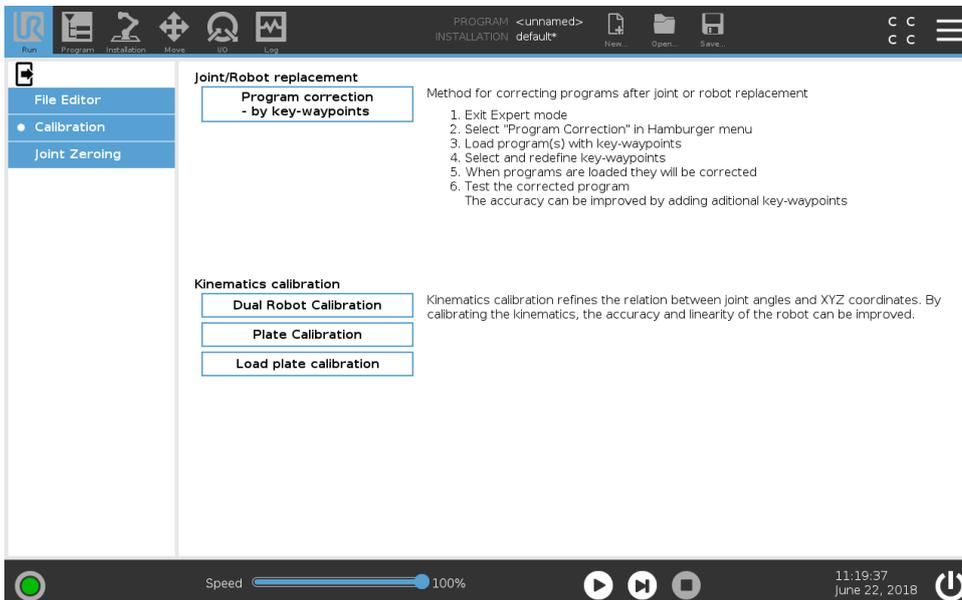

Figure 1.3: Select **Plate Calibration**.
- (3) In the menu on the left, tap **Calibration**.
- (4) Under **Kinematics calibration**, select **Plate Calibration**, (see Figure 1.3).